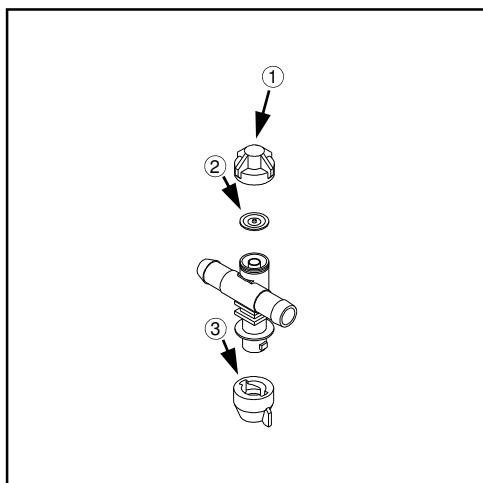

FIG 8.60
At the beginning of each season, or as required, remove a random sample of nozzle caps (fig. 8.60, item 3) and inspect the nozzle tips. If they are plugged or worn, clean or replace them.
At the beginning of each spray season, remove each nozzle cap (fig. 8.60, item 1) and inspect the diaphragm for wear or fit (fig. 8.60, item 2). Replace if necessary. Refer to accompanying manual containing nozzle information.